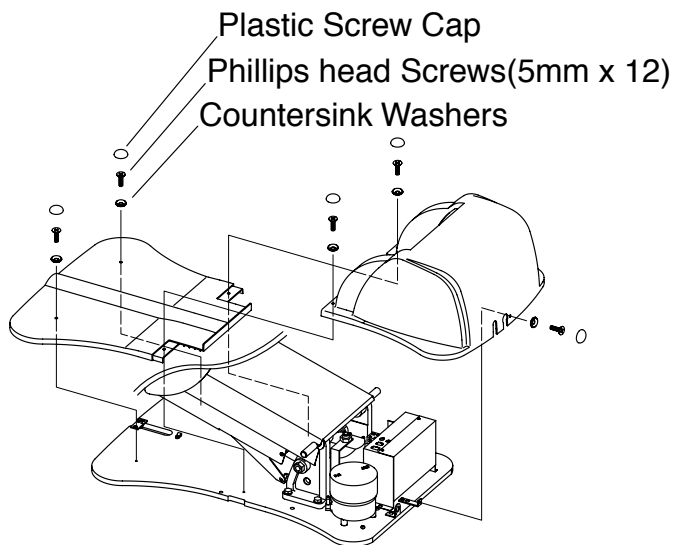

Figure 8
12) Using a phillips screwdriver, attach plastic base and pump covers to the base plate with 5 (5mm x 12) screws with countersink washers & plastic screw caps. (See Figure 8)